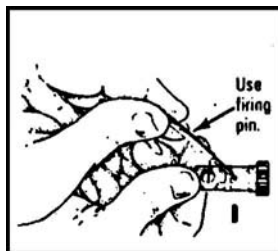

Figure 17. Removing the extractor pin.
- o. Remove the extractor pin by pushing it out with the firing pin (use care not to damage the firing pin) (Figure 17).